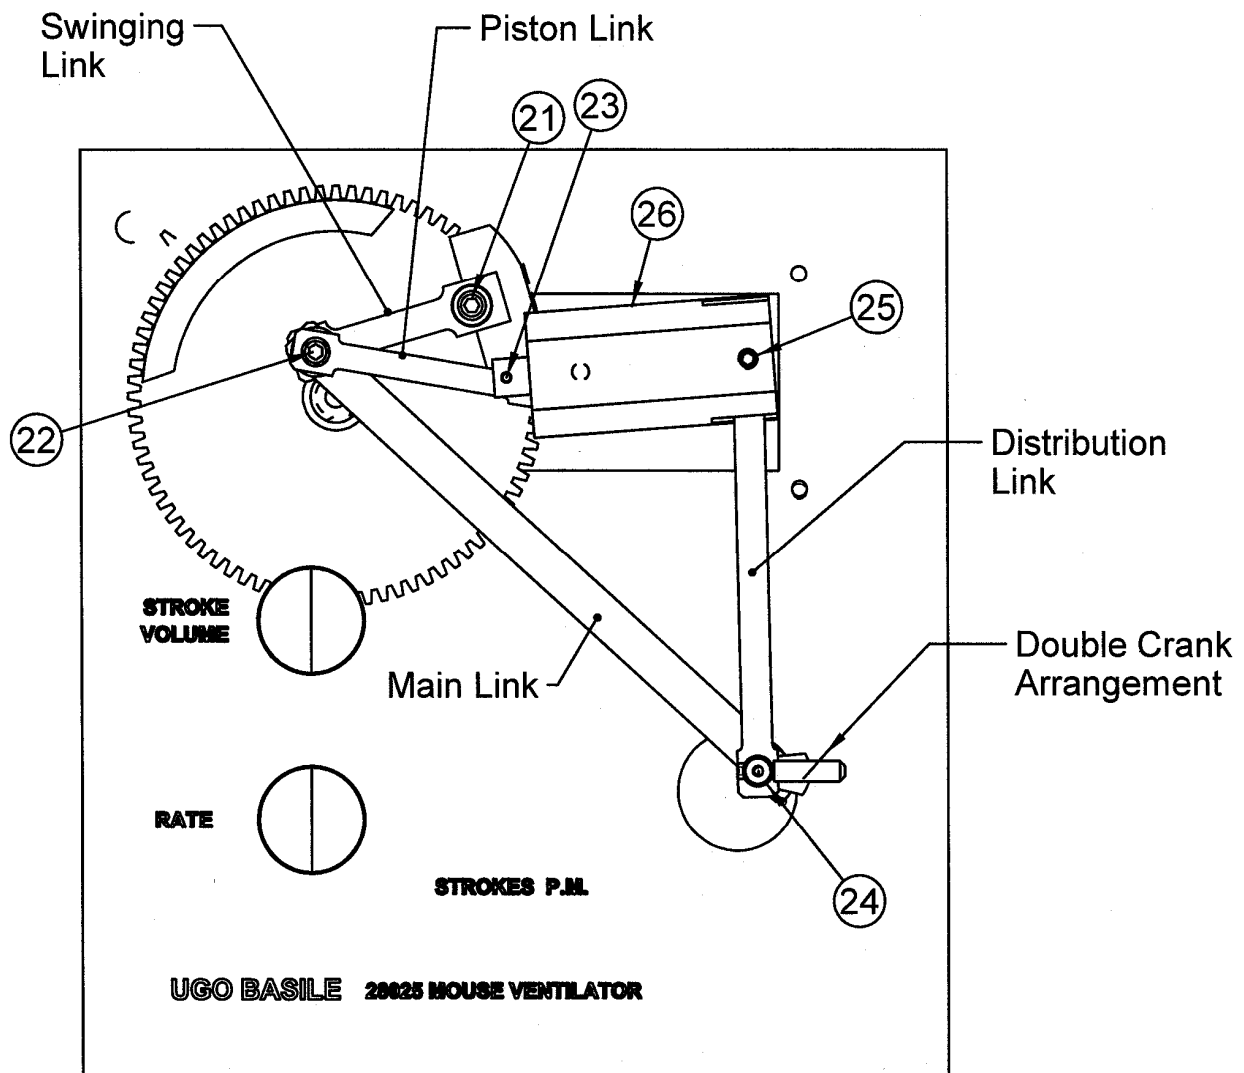

Figure 6 “Lubrication”
* See Figure 6 “Lubrication” for the “mechanically correct” names of the members of the kinematic linkage.
Every 200 hours of operation, lubricate the bearing of the swinging link (21), the triple joint (22), the piston gudgeon (23), the distribution link bearing (25), the double crank arrangement (24), see Figure 6 “Lubrication”, by applying one drop of oil, ideally the one supplied with the standard package, see paragraph 6-ORDERING INFORMATION.